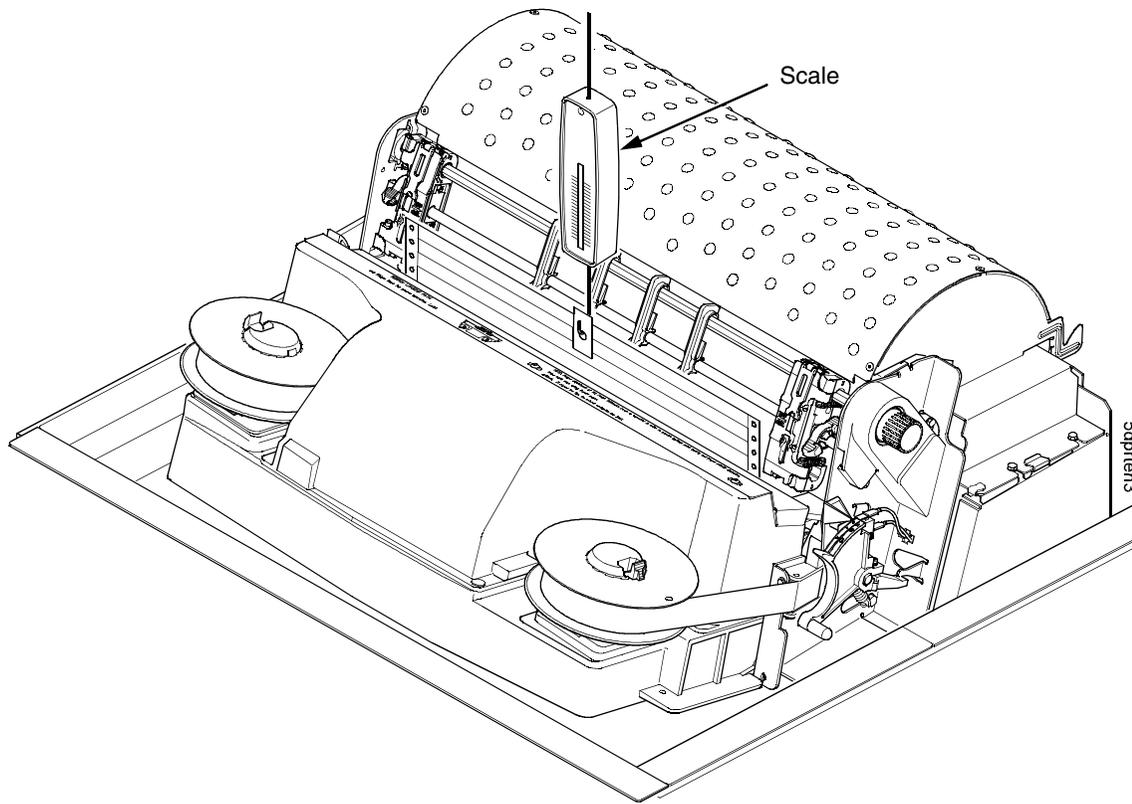

Figure 16. Measuring Paper Tension
8. Pull the paper slowly straight up through the print station for about six inches and note the maximum force exerted on the scale. Do not pull any page perforations through the print station. (See Figure 16.)